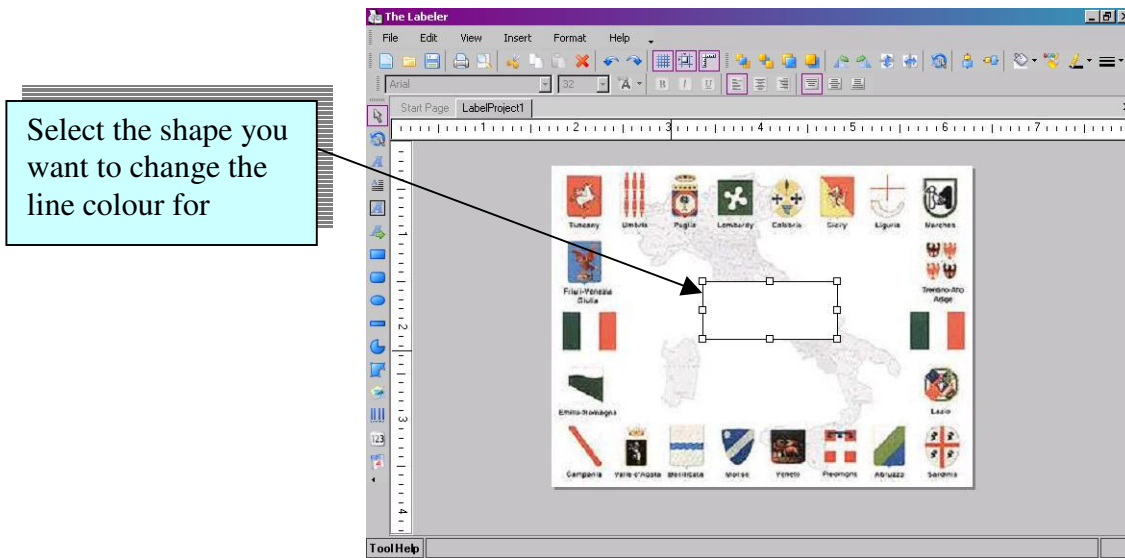

Figure 4.2.4.1: Select the shape to change the line colour
1. Select the shape you want to change the line colour for (see Figure 4.2.4.1).
2. Select the line colour tool icon  on the formatting tool bar (see Figure 4.2.4.2).